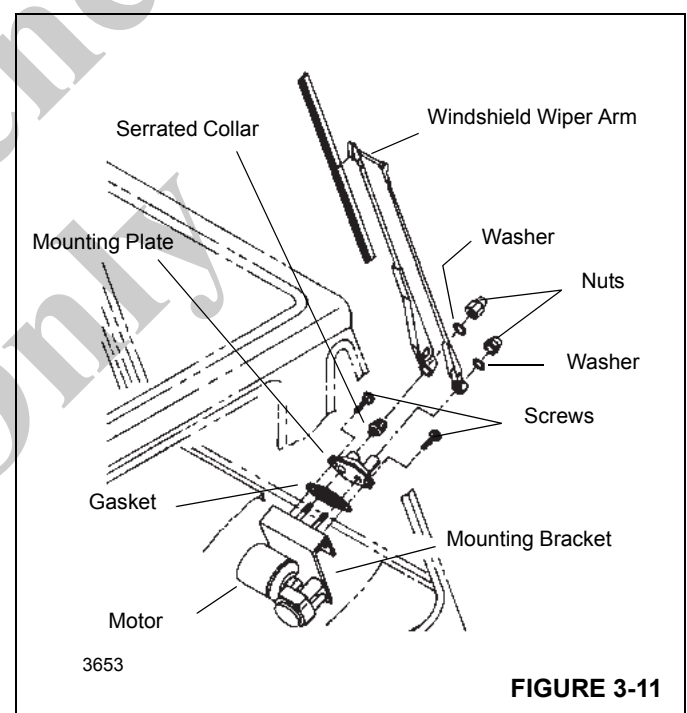

FIGURE 3-11
2. Connect the wiper motor to the motor bracket with screws and washers (see Figure 3-11). Connect the wiper motor's shaft to the wiper motor kit crank with the nut and washer.